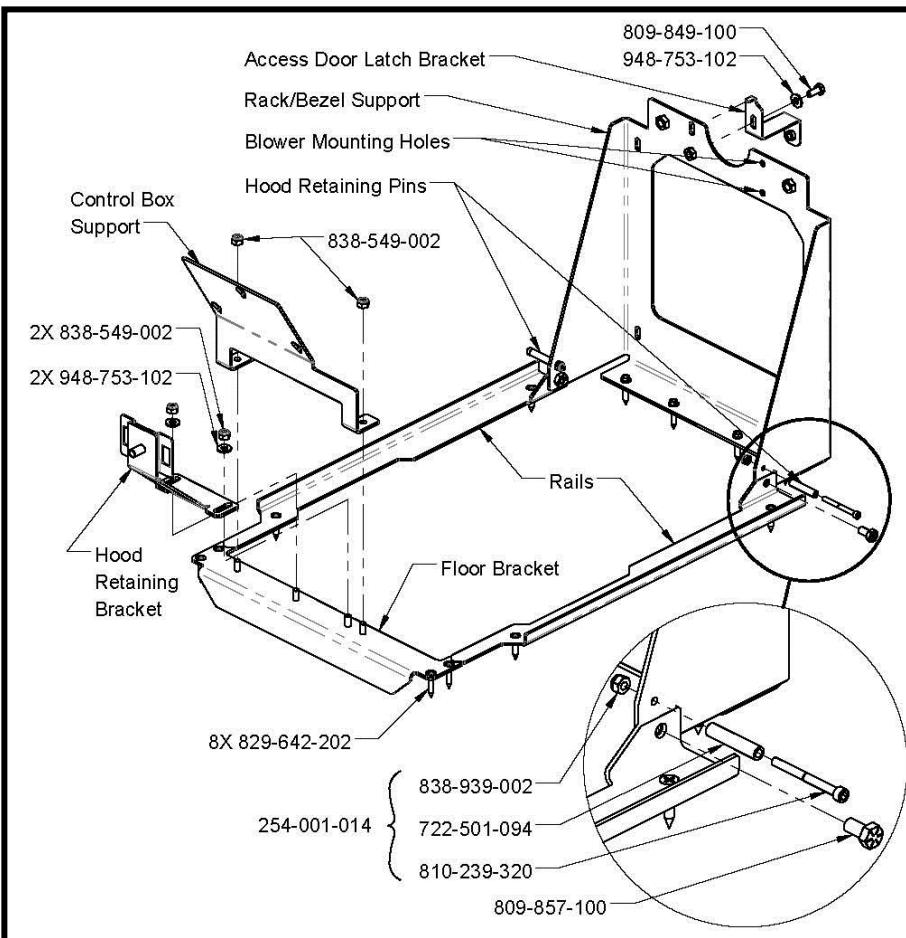

Figure 8, Hood Base
4. Install the hood locking pins (254-001-014) to the holes in the side of the rack-bezel support as shown in Figure 8.
5. Install the rack-bezel support (in the orientation shown in Figures 8 and 10) on the rack side of the ball lift using four self-tapping screws (821-142-202) into the pre-drilled holes.
6. Install the rails and the front floor bracket to the floor using eight (8) flat-head Phillips screws (829-642-202) as shown in Figure 8.
7. Fasten the floor rail tab to the rack-bezel support as shown in Figures 8 and 10. Ensure that the face of the rack-bezel support is plumb.